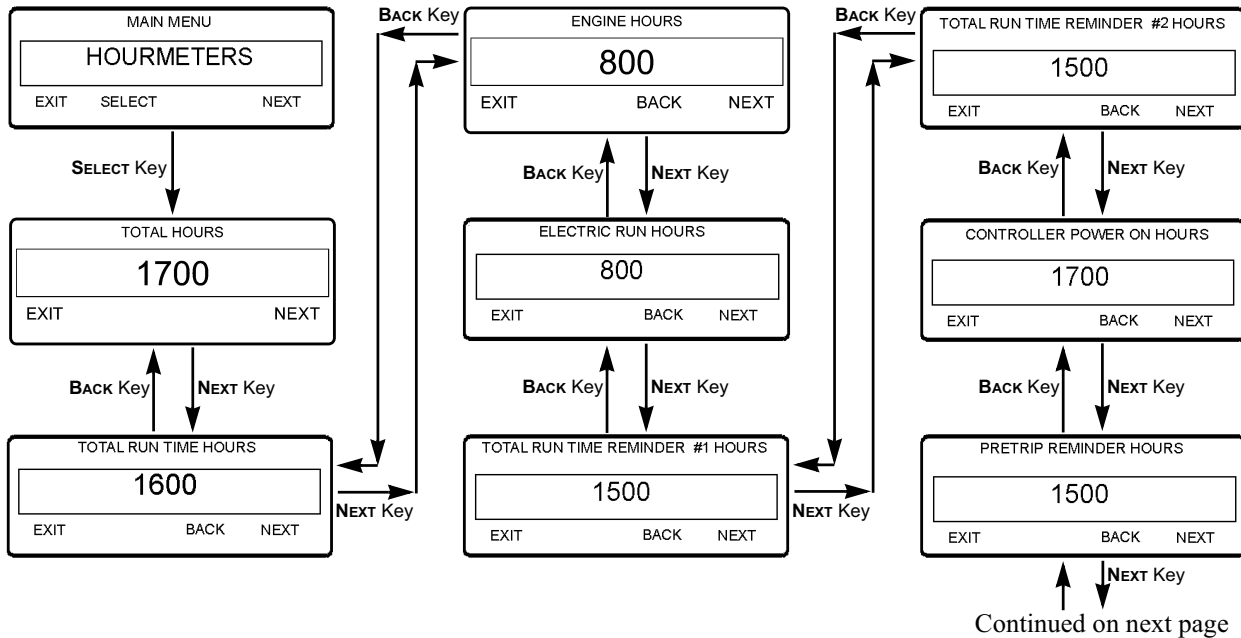

Figure 74: Viewing Hourmeters Screen Sequence (continued on next page)
3. Press the **NEXT** soft key until the Hourmeters Menu appears. See Figure 74.